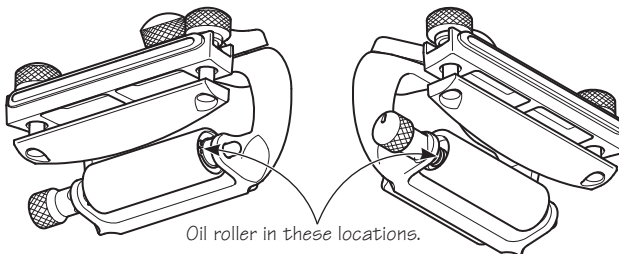

Figure 13: Locations to oil roller.
***Note:** Before using the honing guide, apply a drop of oil to the junction of the roller, as shown in **Figure 13**.*
We recommend that you flush the roller with water, dry it and apply a drop of oil to the junction of the roller, as shown in **Figure 13**, every few times you use it. Work the roller with your fingers to ensure that the oil is well distributed inside. As grit from the sharpening process eventually fouls the clamping screws, they should be cleaned and oiled occasionally as well.